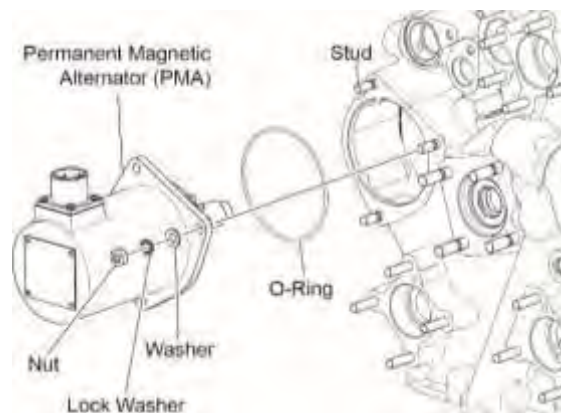

Figure 54
- (1) Disconnect the wiring harness from the PMA per instructions in Table 3 in this chapter.
- (2) Remove the three nuts, lock washers, and washers (Figure 54) that attach the PMA to the accessory housing. Discard the lock washers.
- (3) Remove the PMA from the accessory housing.
- (4) Remove and discard the O-ring from the PMA mating surface.
- (6) Install a new O-ring (Figure 54) in the groove of the PMA mating surface.
- (7) Align the holes in the PMA flange with the three studs in the accessory housing as shown in Figure 54.
- (8) Install the PMA by meshing the PMA gear with the idler gear in the accessory housing.
- (9) Attach the PMA to the accessory housing with the three nuts, new lock washers, and washers (Figure 54).
- (10) Torque the nuts in incremental steps to a final torque of 96 in.-lb. (11 Nm).
- (11) Connect the wiring harness to the PMA per instructions in Table 3 in this chapter.
- (12) Complete the operational ground check in Chapter 72-00 and a Pre-Flight Test in accordance with the Engine Operation chapter in the latest revision of the **TEO-540-C1A Engine Installation and Operation Manual**, to ensure the PMA operates correctly.